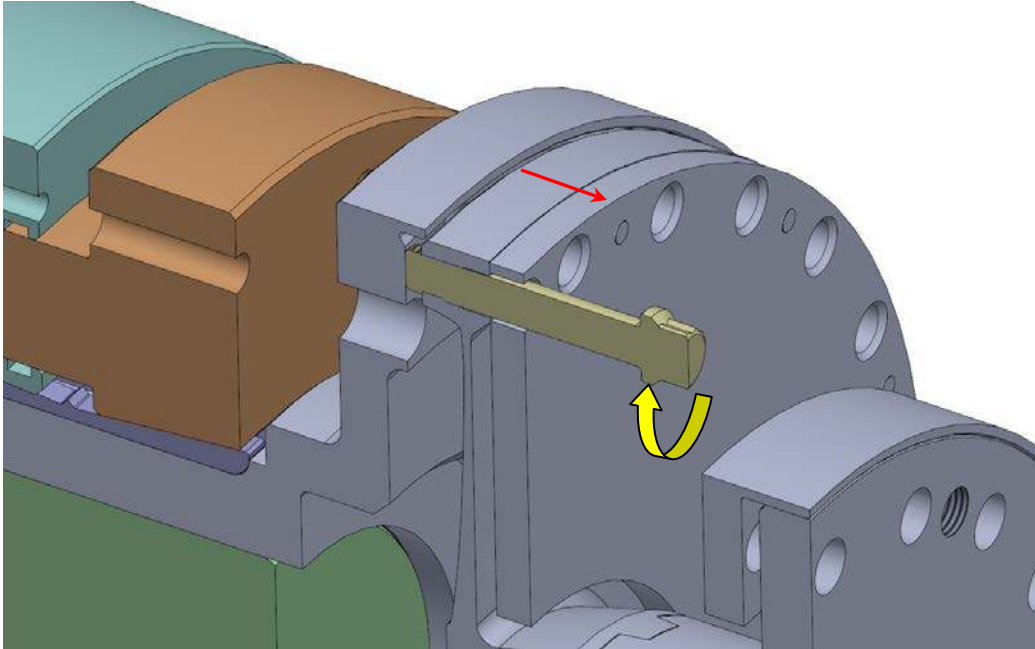

Figure 19 – Use of Jacking Bolts Disengage Pilot Fit
5.2.3 While supporting the flex assembly weight, turn the jacking bolts in an even criss-cross pattern to disengage the assembly from the hub, as shown in Figure 19. Remove the jacking bolts from the taps.